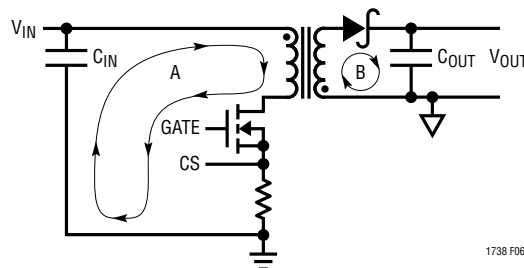

Figure 6
Keep the high current loops physically small in area. The main loops are shown in Figure 6: the power switch loops (A) and the rectifier loop (B). These loops can be kept small by physically keeping the components close to one another. In addition, connection traces should be kept wide to lower resistance and inductances. Components should be placed to minimize connecting paths. Careful attention to ground connections must also be maintained. Be careful that currents from different high current loops do not get coupled into the ground paths of other loops. Using singular points of connection for the grounds is the best way to do this. The two major points of connection are the bottom of the input decoupling capacitor and the bottom of the output decoupling capacitor. Typically, the sense resistor device PGND and device GND will tie to the bottom of the input capacitor.